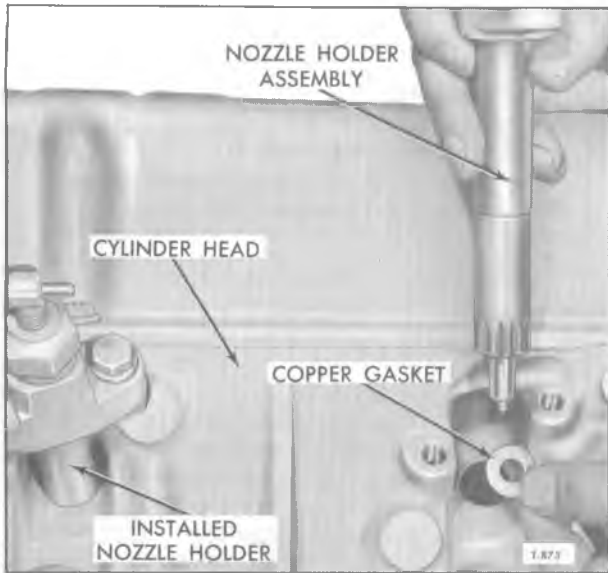

Figure 24—Installing Fuel Injection Nozzle Assembly
1. Use new copper gasket at lower end of injection nozzle assembly and insert the nozzle holder assembly into place in cylinder head (fig. 24).